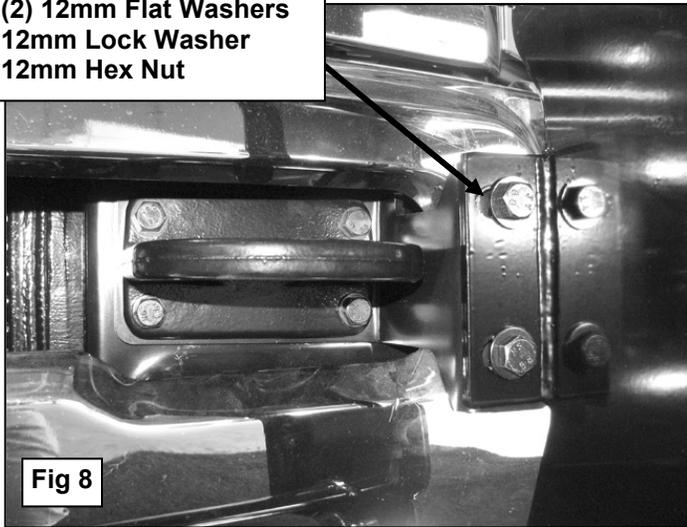

Fig 8
6. With assistance, position the Grille Guard up to the Frame Mounting Brackets. Use the included (4) 12mm x 40mm Hex Bolts, (8) 12mm Flat Washer, (4) 12mm Lock Washers and (4) 12mm Hex Nuts to attach the Grille Guard to the Frame Mounting Brackets, **(Figure 8)**. Insert the lower tabs on the Grille Guard through the openings cut into the splash guard in **Step 5**. Trim plastic as necessary to properly clear brackets. Snug but do not tighten hardware at this time.